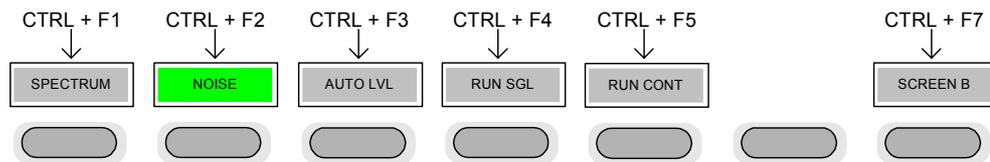

Fig. 5 Quick Access to Hotkeys
CTRL keys Used to activate hotkeys. Each of the seven hotkeys is allocated a different function (F) key. To access these hotkeys press CTRL and the corresponding F key together (see Fig. 5):